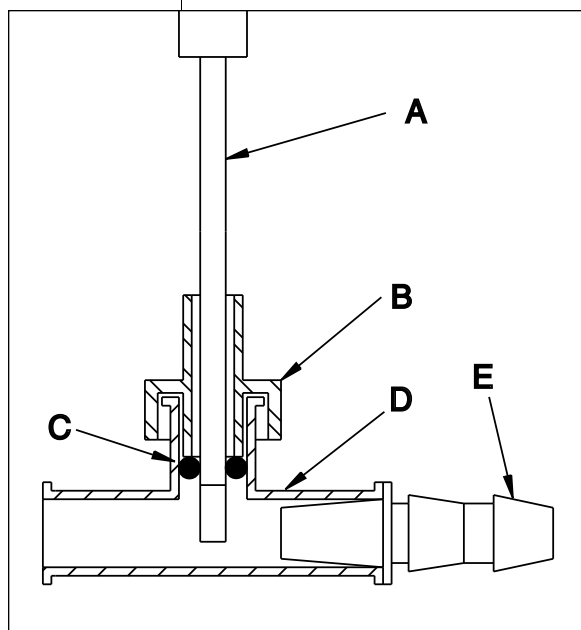

Figure 2
The slip-type Luer fittings (E) are used to connect tubing into the two ports of the T-adapter. A completed assembly for continuous-flow monitoring of oxygen or nitric oxide is shown in Fig. 2. To disassemble the T-adapter from the probe, simply reverse the order of the steps mentioned above.